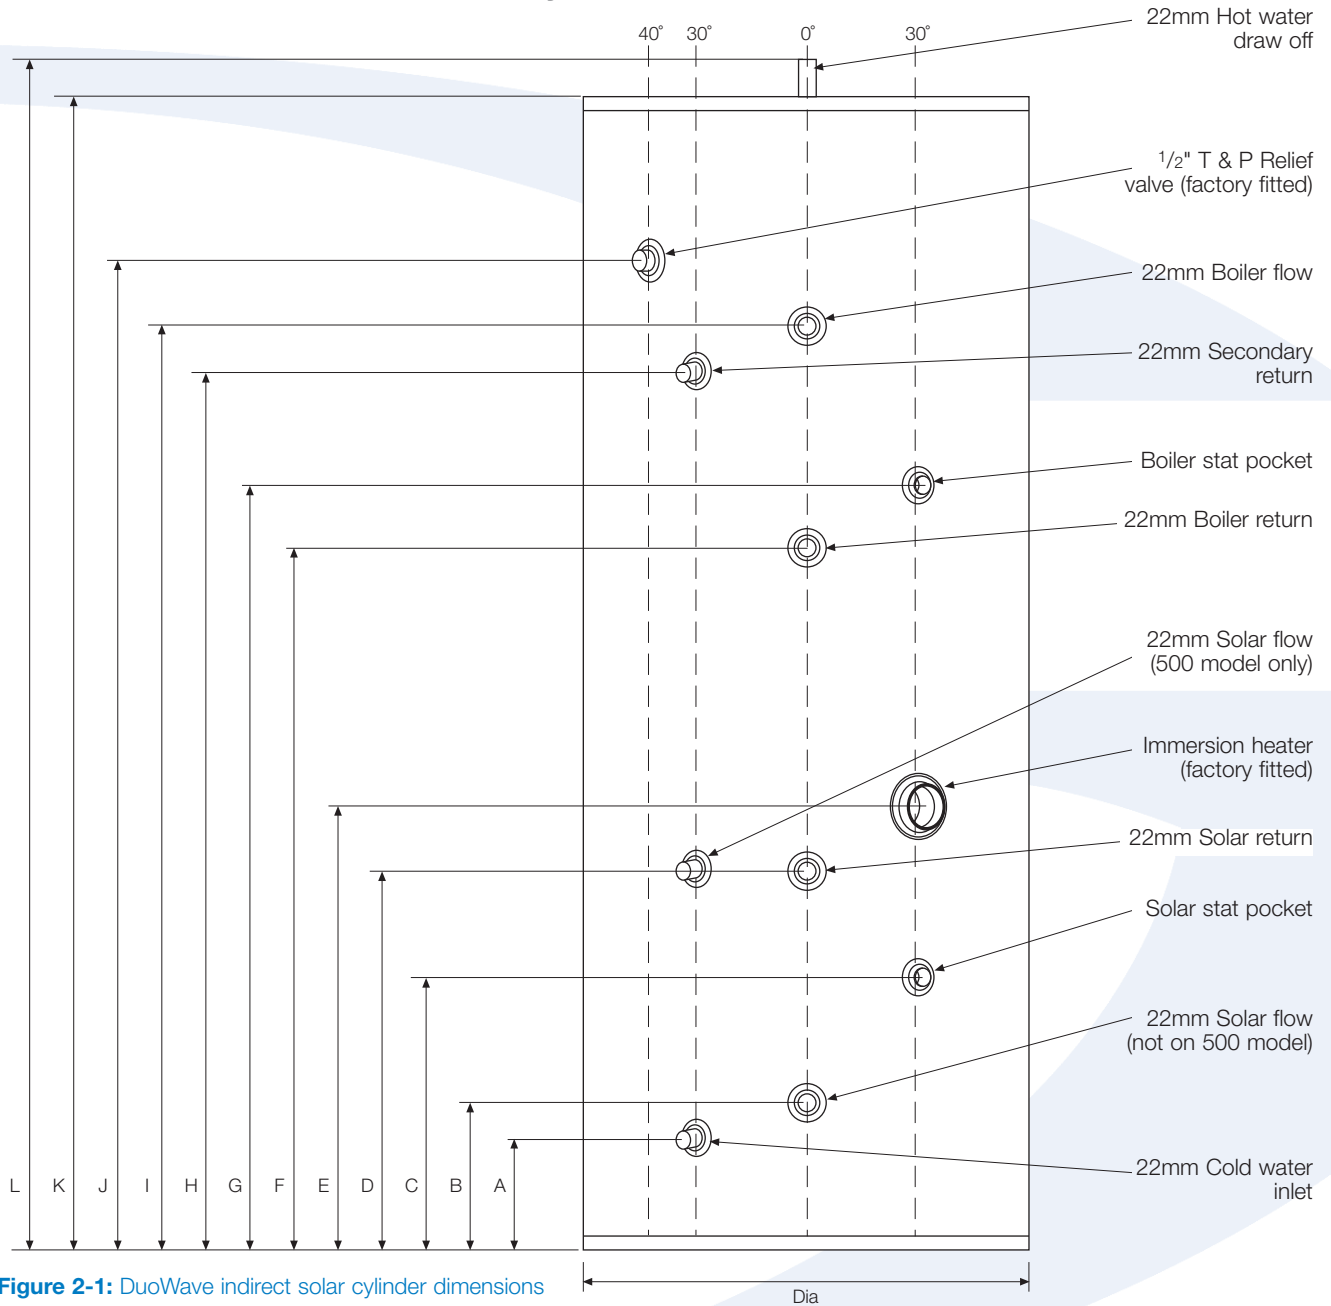

Figure 2-1: DuoWave indirect solar cylinder dimensions
2. Locate the dual thermostat in the stainless steel pocket (refer to either Figure 2-1 or 2-3, as appropriate, for location) and secure using the retaining screws on the thermostat housing.